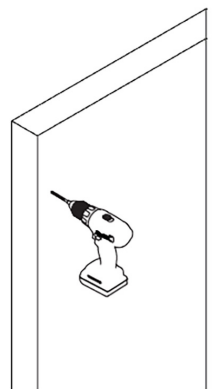

FIGURE 4
Once the Wall Jamb (A) is level, use a pencil to mark the holes for drilling. Depending on the support behind the wall, Plastic Anchors (E) may or may not be required. If you are unsure, if unsure, use the Plastic Anchors (E) to be safe. If using an anchor, use 1/4" drill bits to drill holes on the specified marks. If wooden support is present and no anchor is required, use 3/16" drill bits to drill holes on specified marks. (See Figure 4)